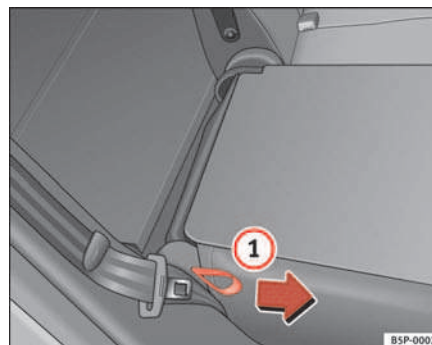

Fig. 98 Folding or opening the rear seat backrests
- Pull the loop on the side of the seat ⇒ fig. 98 ①.